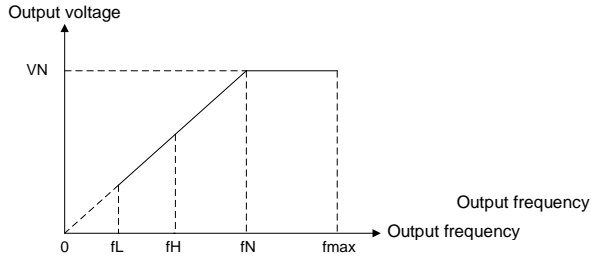

Fig. 6-8
B0-09 upper limit frequency is the user-defined maximum allowable running frequency and represented by fH in Fig. 6-8.
marked with fL in Fig. 6-8.
In Fig. 6-8, fN represents rated frequency of motor while VN means the rated voltage of motor.
- Ø The rank relation between maximum frequency, upper limit frequency and lower limit frequency is shown as Fig. 6-8.